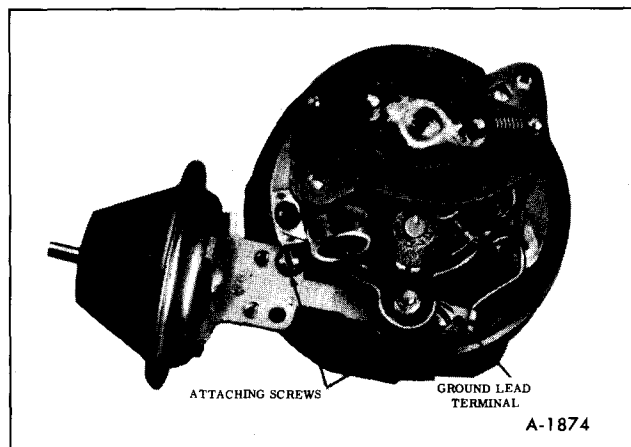

Figure 42—Vacuum Advance Unit
1. Remove the distributor cap, shield and the two vacuum advance attaching screws. (figure 42)
4. Install the attaching screws with the ground lead terminal under the inner mounting screw. (figure 42) Install the shield and distributor cap.
1. Install the vacuum advance with the ground lead terminal under the inner mounting screw. (figure 42)